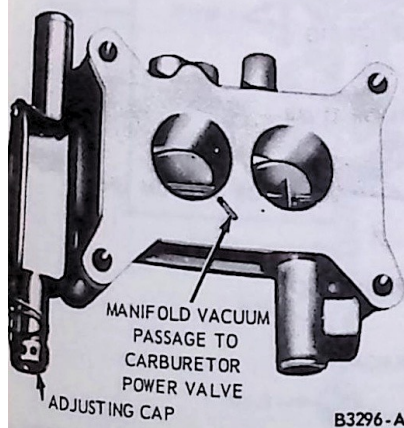

FIG. 1 Typical Velocity Governor
The velocity governor (Fig. 1) is a single unit mounted between the carburetor and the intake manifold. There is no provision for repair of this governor. It should be replaced when damaged.
If adjustment is required or desired, remove the governor seal (Fig. 1). To increase rpm, turn the cap counterclockwise. To decrease rpm, turn the cap clockwise. When adjustment is complete, stop the engine, seal the cap, and remove the tachometer.
1. Cut the governor seal wire and remove the adjusting cap (Fig. 1). Do not rotate the adjusting cap during removal.